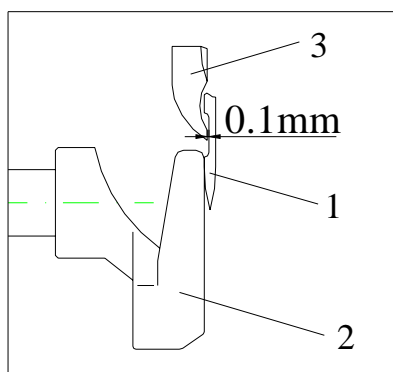
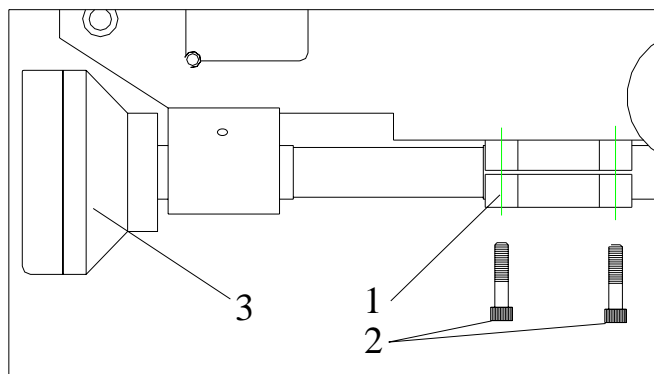
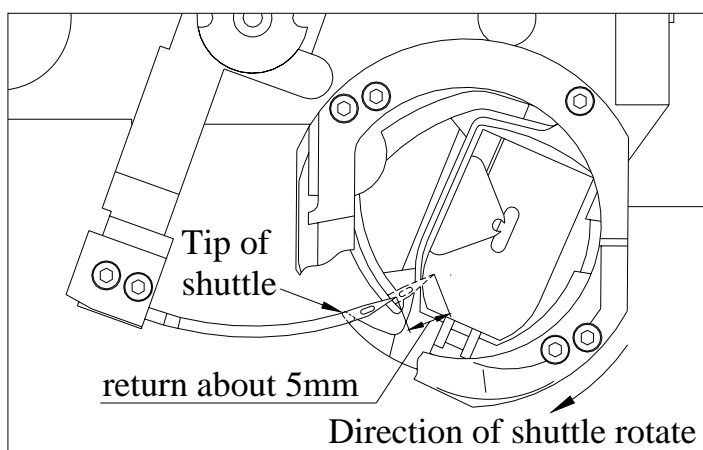
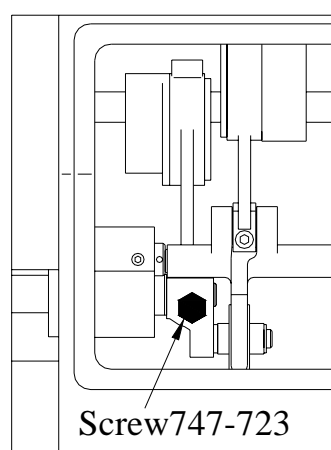

Fig.7
Fig.8
Fig.9
Fig.10
4.3 Set the shuttle position (Fig.7 ,Fig.8 , Fig.9 ,Fig.10)
The correct position of the shuttle is that the tip of the shuttle 3. near to the slot of the needle 1. about 0.1mm. (as shown in Fig.7)
To adjust it, proceed as follows: (Fig.8)
The correct time of the tip of shuttle hook the loop of needle : Turn the pulley in the correct direction, let the needle return about 5mm from its lowest position, at this time the position of shuttle is as shown in fig 9.
To adjust this position, proceed as follows:(fig10)